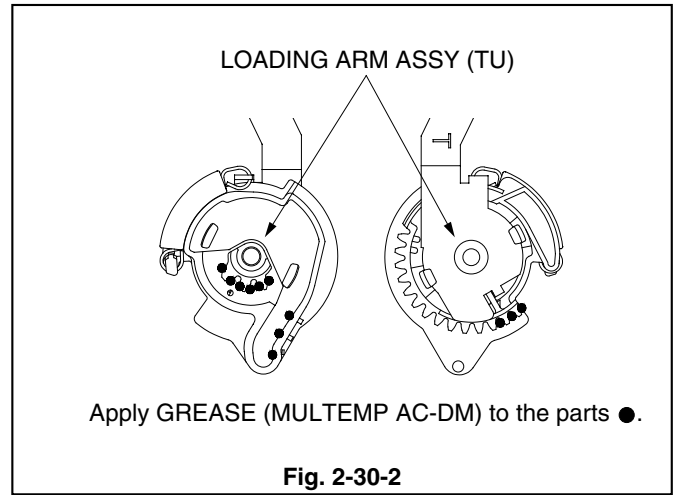

Fig. 2-30-2
2. Apply GREASE (MULTEMP AC-DM)[859D055O90] to the parts on the LOADING ARM ASSY (TU) specified in the Fig. 2-30-2.